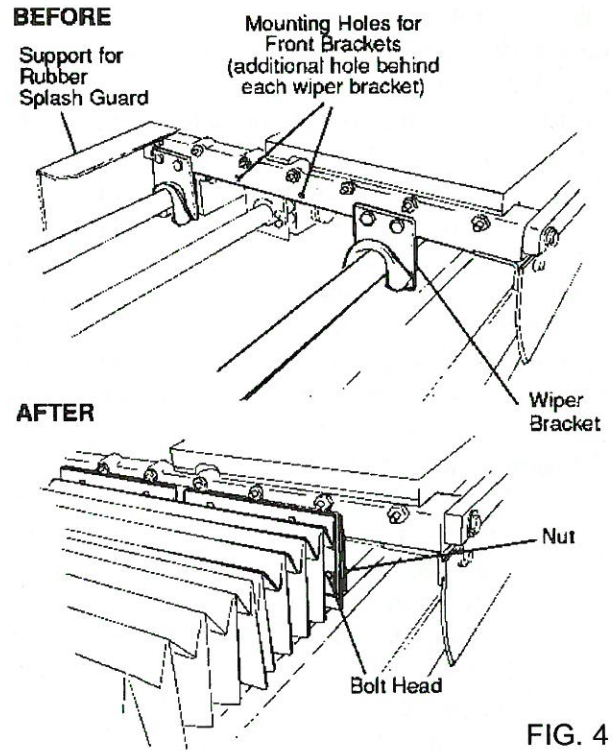

FIG. 4
2. Remove the formed-steel sheet, See FIG. 4, which supports the rubber splash guard, at the rear of the carriage - two screws.
4. Remove the two rail wiper brackets from each side of the carriage - two screws each. See FIG. 4.
6. Attach the inner end of each bellows to the carriage. See FIG. 4. Use four L-brackets, (two on each side of the last bellows fold), six bolts, and two hex nuts at each end. Nuts are required only for the lower holes of the L-brackets.